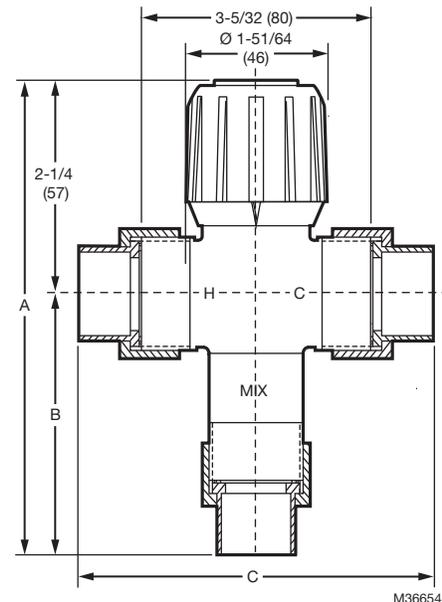

Fig. 1. Dimension Diagram. See Table 1.
**Dimensions:** Refer to Fig. 1 and Table 1.